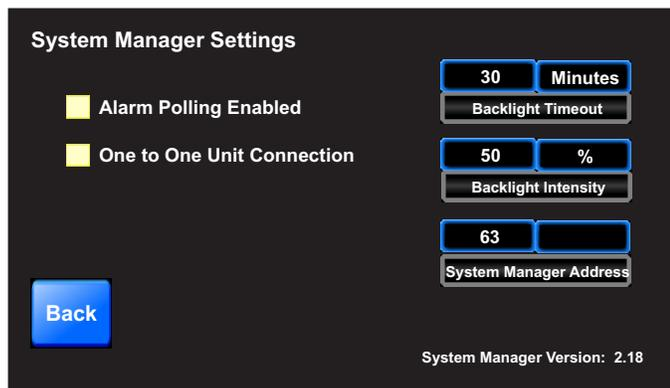

Figure 15: System Manager Settings Screen
NOTE: System Access will automatically default to **System Secured** after time set for **Backlight Timeout** in the *System Manager Settings Screen* (see **Figure 15, page 17**). If timeout is set to zero, the passcode will timeout after two minutes.
From the *Main Screen*, touch the **<Settings>** icon. The *System Manager Settings Screen* will appear. See **Figure 15**.
1. **Alarm Polling Enabled** must be selected in the *Systems Settings Screen* (see **Figure 15, page 17**).